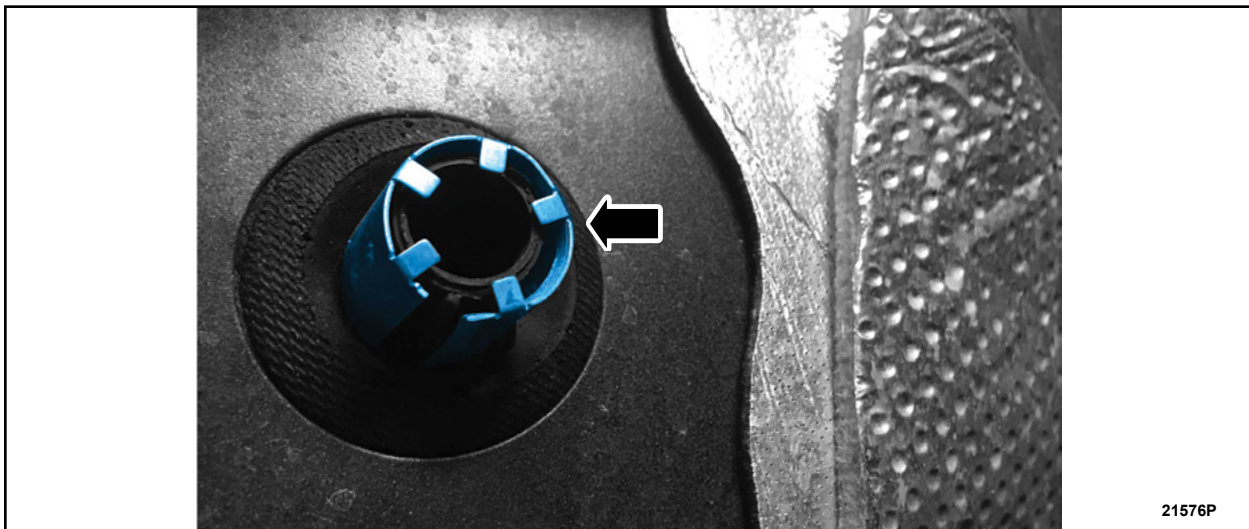

FIGURE 3
4. Using needle nose pliers or equivalent, remove and discard the metal shield from the evaporator drain tube by bending the tabs away from the tube. See Figures 3 through 5.